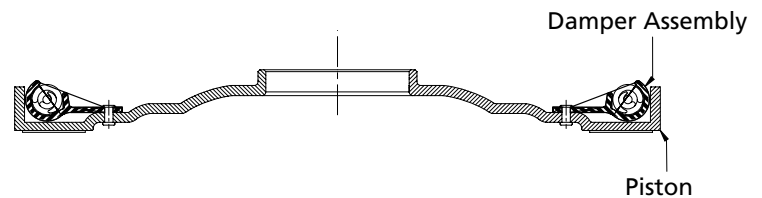

Figure 1
1. Chuck the piston plate (*Figure 1*) in a lathe with damper spring side facing out.